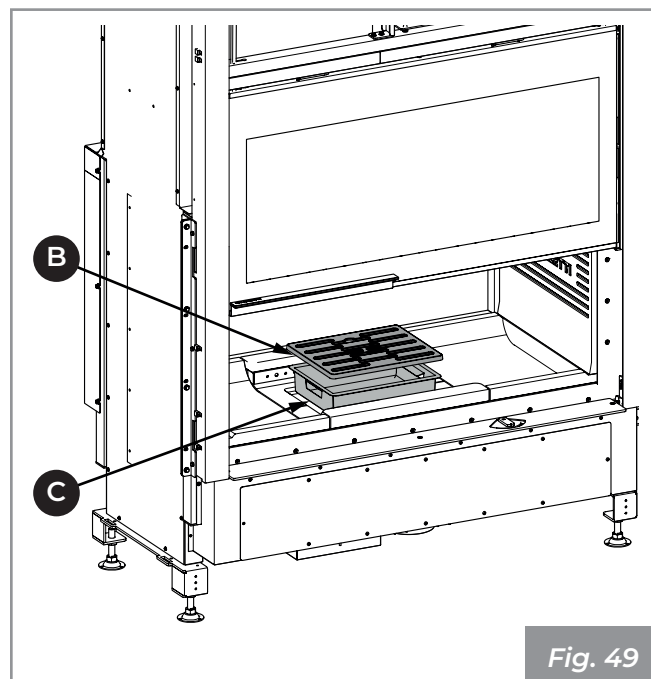

Fig. 49
- 2) Lift and extract the grate (B) and ash drawer (C) (Fig. 49).